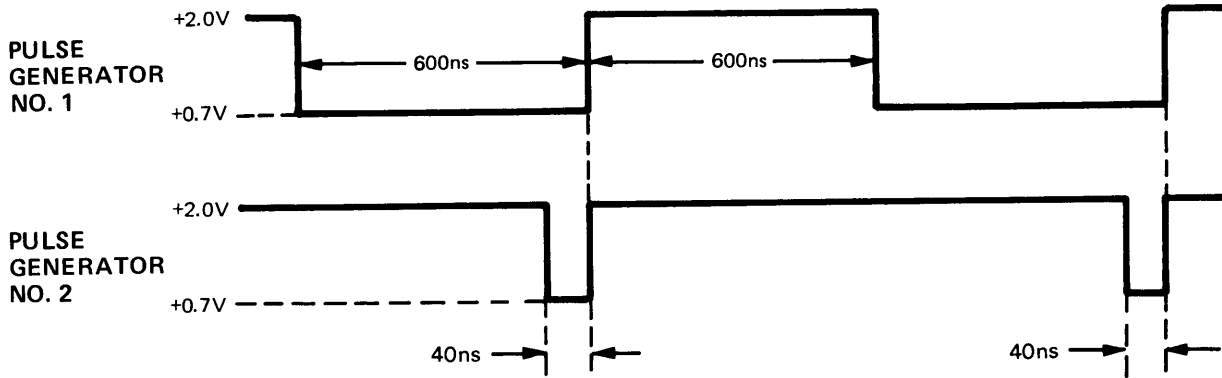

Figure 4-5. Data Lines Test Waveforms
- d. Adjust pulse generators for waveforms shown in figure 4-5.